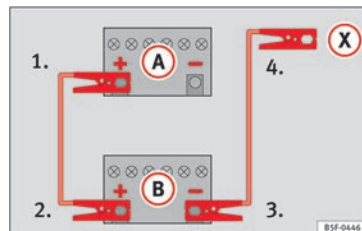

Fig. 59 Diagram of connections for vehicles without Start Stop system
2. Connect one end of the *red* jump lead to the positive (+) terminal of the vehicle with the flat battery (A) »» Fig. 59.
3. Connect the other end of the *red* jump lead to the positive terminal (+) in the vehicle providing assistance (B).
- 4a. *For vehicles without Start-Stop system:* connect one end of the *black* jump lead to the negative terminal (-) of the vehicle providing the current (B) »» Fig. 59.